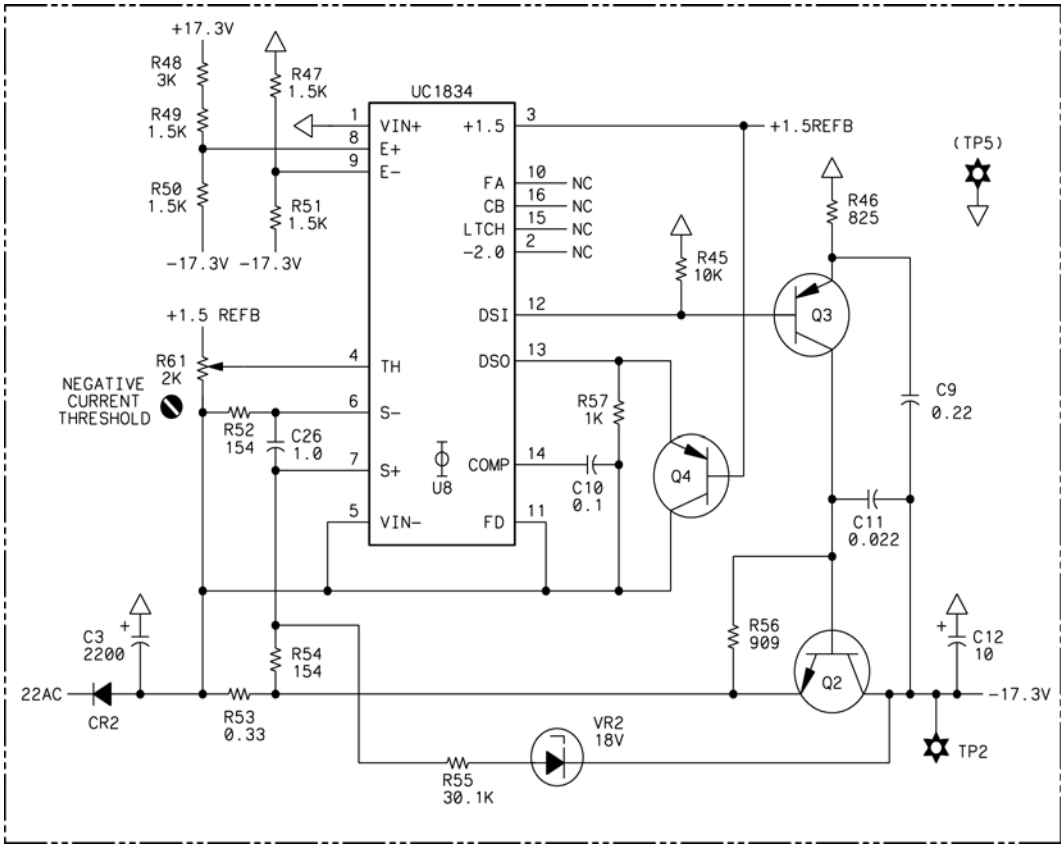

Figure 10 Schematic 2. Negative Supply
- **Figure 10**, “Schematic 2. Negative Supply,” on page 54
When reading this section, refer to **Figure 10**, “Schematic 2. Negative Supply,” on page 54. The negative supply uses the same IC as the positive supply. The control voltages however, are a sum of the voltage from the positive supply, used as a reference, plus the feedback from the output of the negative supply. The voltage input from the positive supply makes the negative supply voltage track the positive supply. Q3 is an additional gain stage in the output and Q4 assures a clean start when power is applied.